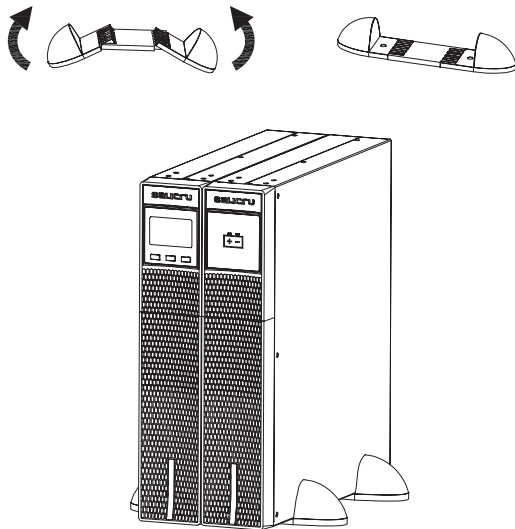

Fig. 7. Vertically mounted tower-type model with backup extension (battery module).
- Place the UPS and battery module upright between the two bases (see Fig. 7) and at a distance of 70 mm from each end, similar to as shown in Fig. 7.